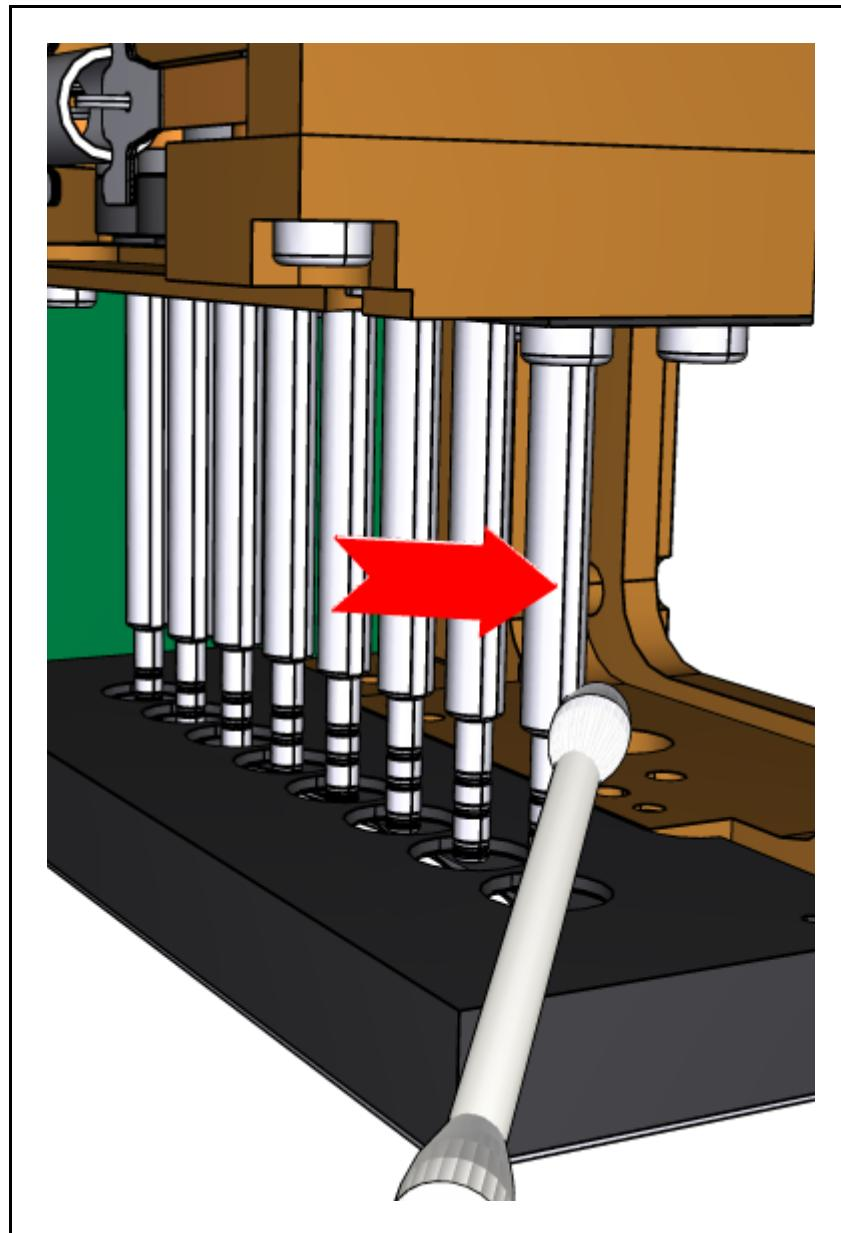

Figure 16-16. Lubricate tool tube.
1. Use a Q-tip to clean and lubricate (K-012-0122B GREASE PARALIQ GA 351, 25G) the tool tubes. Be sure to lubricate the vertical recesses in the tool tubes, see Figure 16-16.